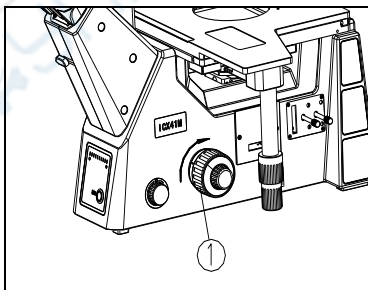

Fig. 5
(1)With the showed direction to turn coarse focus knob ① to make the focus to limit position. (Fig.5)
(1) With the showed direction to turn coarse focus knob ① to make the focus to limit position. (Fig.5)
(2) Install the objective into the microscope nosepiece from the lowest magnification to the highest in a clockwise direction from the left or right side.